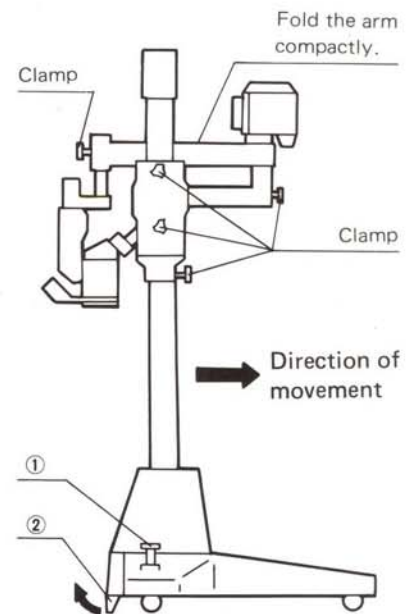

Fig. 9
- 2) If the microscope is carried from room to room, fold the arm as compactly as possible, indicated in Fig. 9, and advance the microscope in the direction of the arrow.
- ★ Prior to removal, do not forget to unlock the tripod base ①.